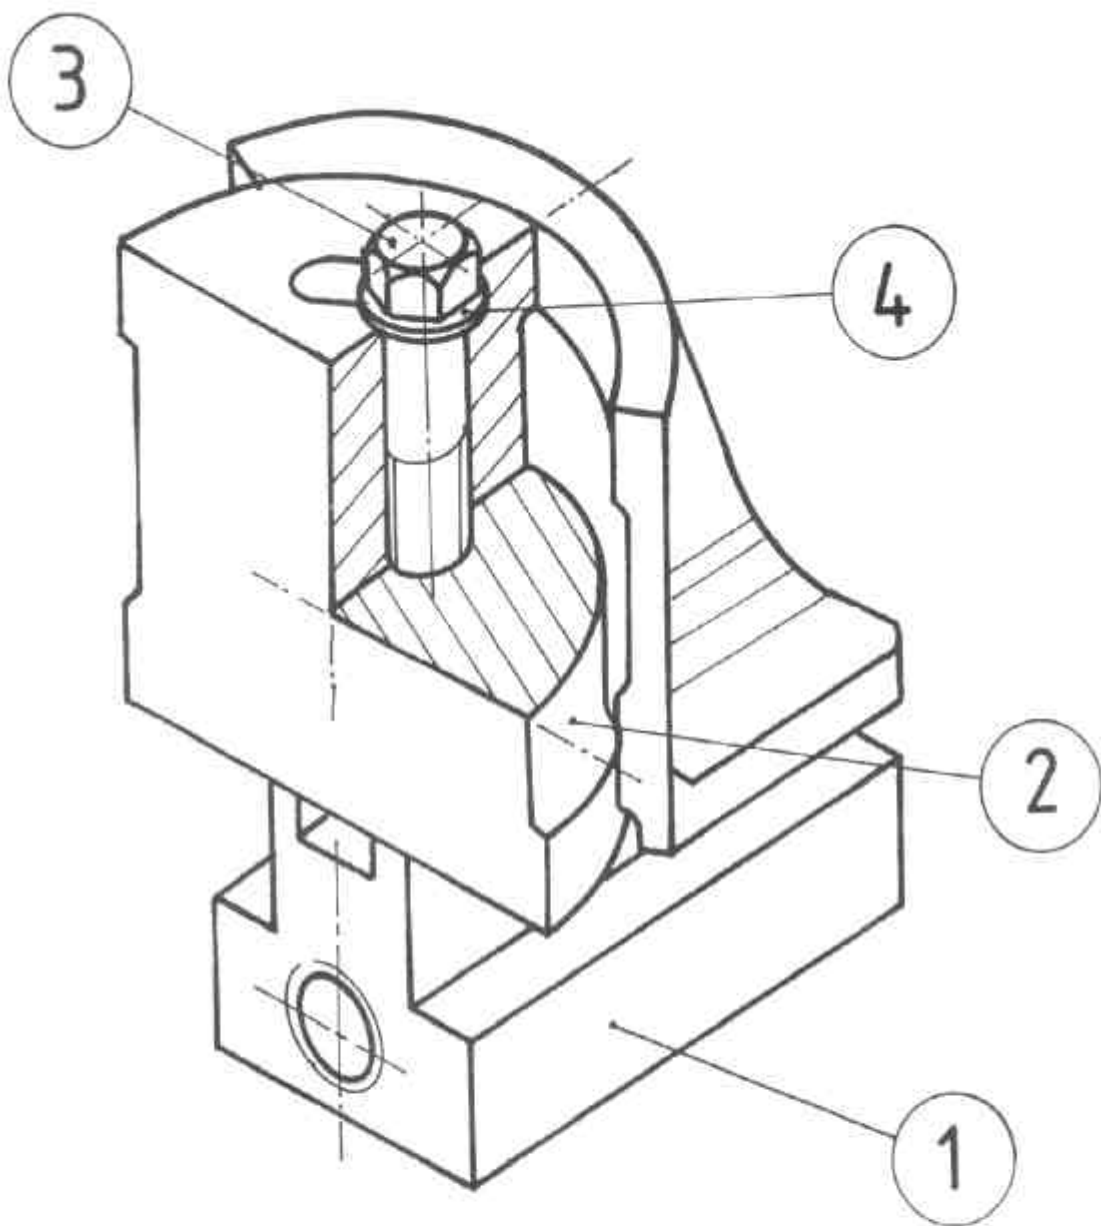

FIG. 5
- (b) (i) Identify the machine part shown in Fig. 5.